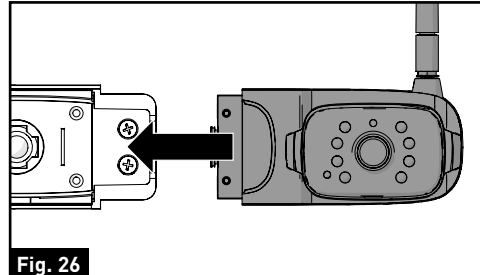
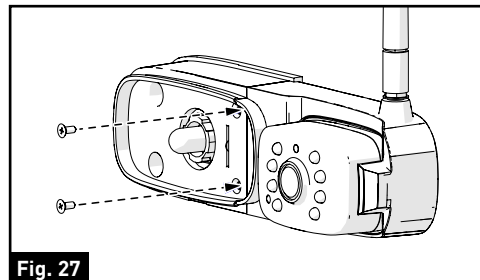

Fig. 26
Fig. 27
6. Insert the front or rear camera into the traffic light base and secure with two flat self-tapping screws provided. (Fig. 26 and Fig. 27)